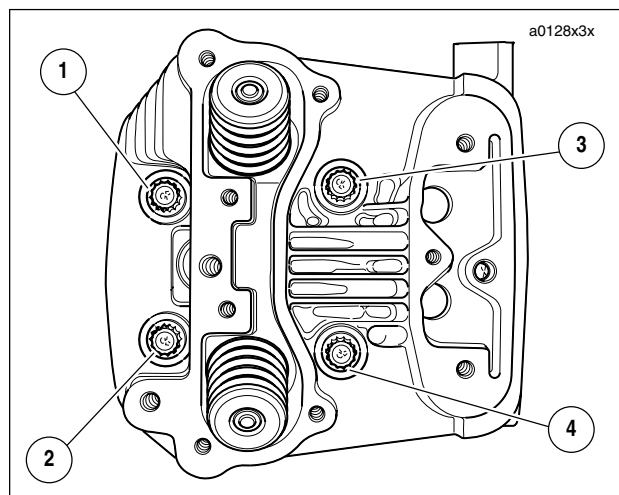

Figure 3-47. Head Screw Loosening/Tightening Sequence
See Figure 3-47. Distortion to the head, cylinder and crankcase studs may result if head screws are not loosened (or tightened) gradually in the sequence shown.
11. See Figure 3-47. Loosen each head screw 1/8-turn following the sequence shown.